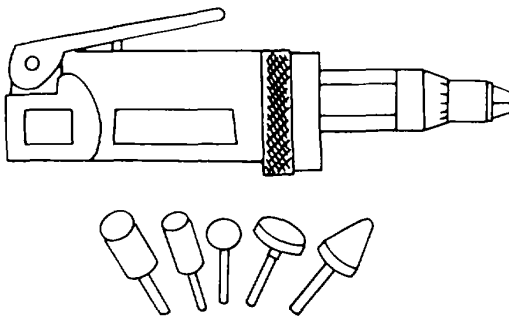

Figure 5-16. Pneumatic Grinder
- (4) Always hold the drill at right angles to the work regardless of the position or curvatures. Tilting the drill at any time may cause elongation of the hole.
a. Types. A typical pneumatic grinder is shown in figure 5-16. The grinders are rated by no-load speeds, which typically result in terms of light-, medium-, and heavy-duty loads being used to describe the grinder. The grinding stones come in numerous shapes and give versatility to the grinder.